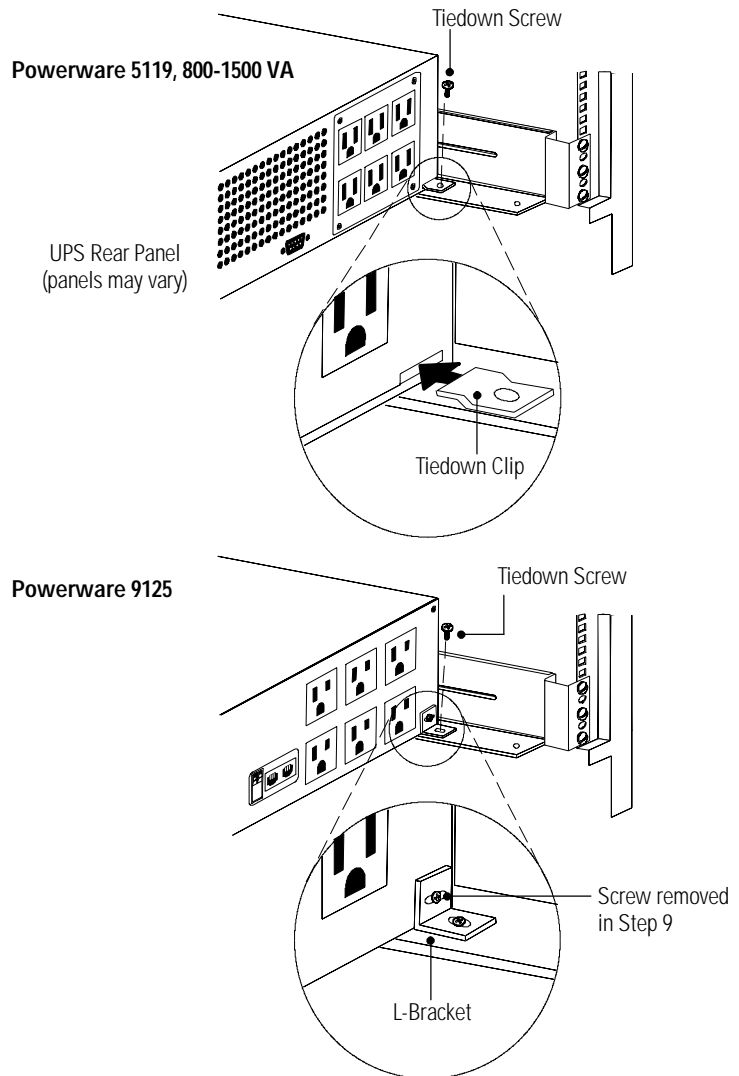

Figure 5. Securing the Back of the UPS
10. Secure the back of the UPS to the rails with the supplied tiedown clips or brackets and screws (see Figure 5). The UPS is now secured in the rack.